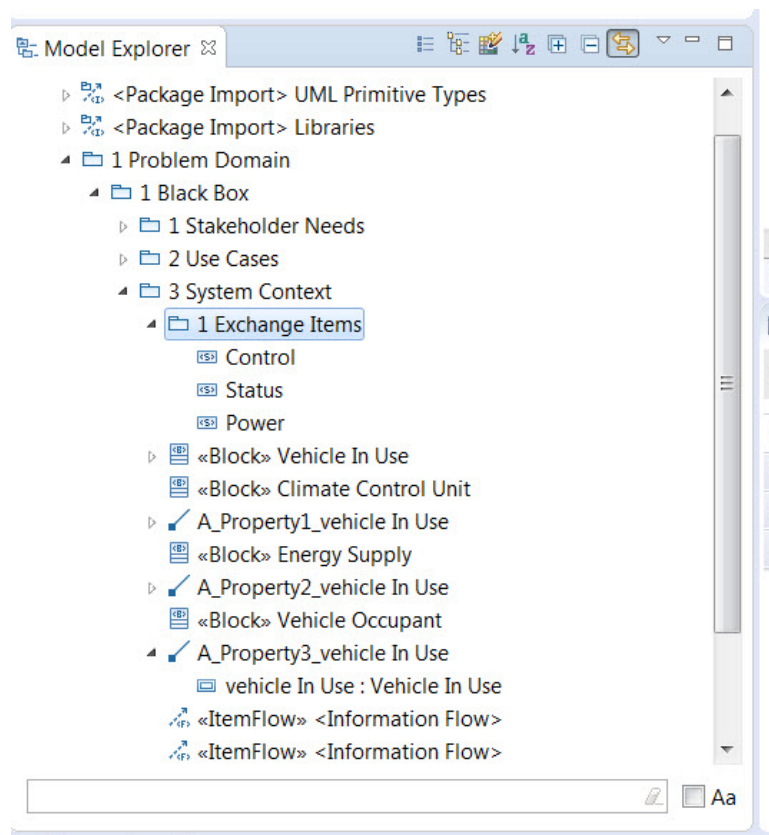

Figure 63: Signals Created
- Follow the same procedure to create another signal called *Status* (figure 63) and another called *Power*.